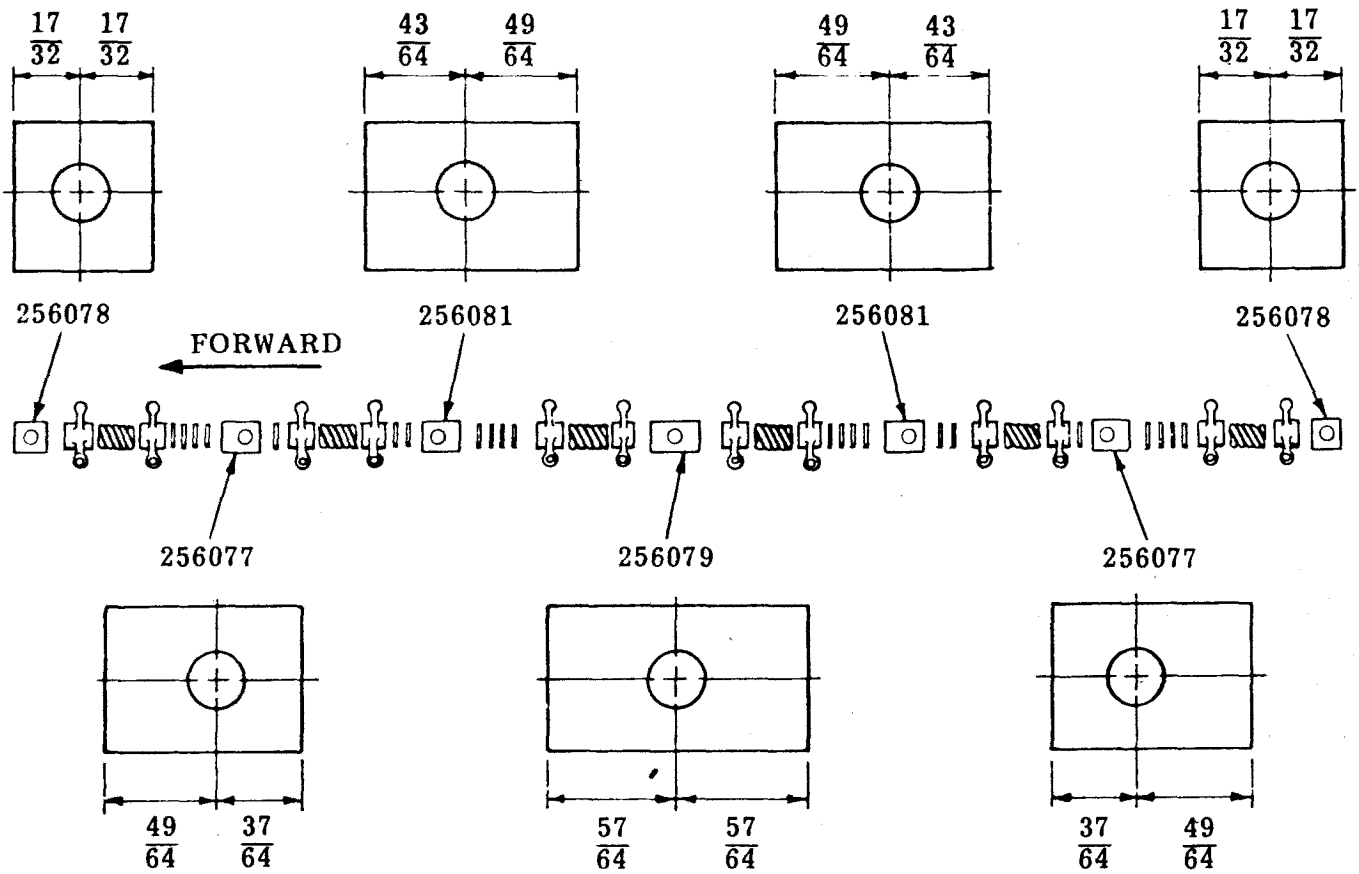
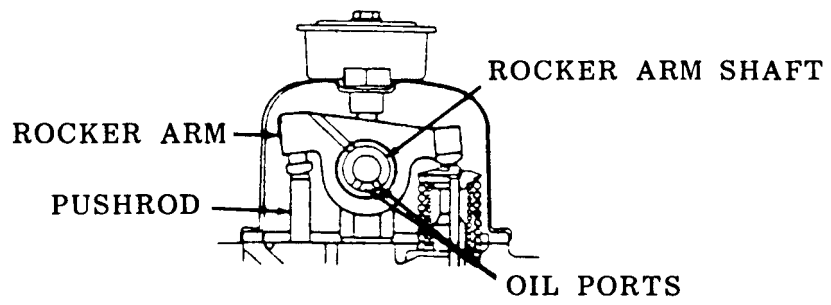

Figure 12-5. Rocker Arm Mounting Blocks Installation.
Figure 12-6. Rocker Arm Shaft Positioning.
- (3) Assemble rocker arm assembly as follows:
- (a) Install adjusting screws (12) into rocker arms (11).
- (b) Assemble springs (13), rocker arms (11), spacers (14 and 15) and mounting blocks (10) onto rocker arm shaft (16). Make sure that mounting blocks and spacers are correctly installed (fig. 12-5) and that oil holes in rocker arm shaft are correctly positioned (fig. 12-6).